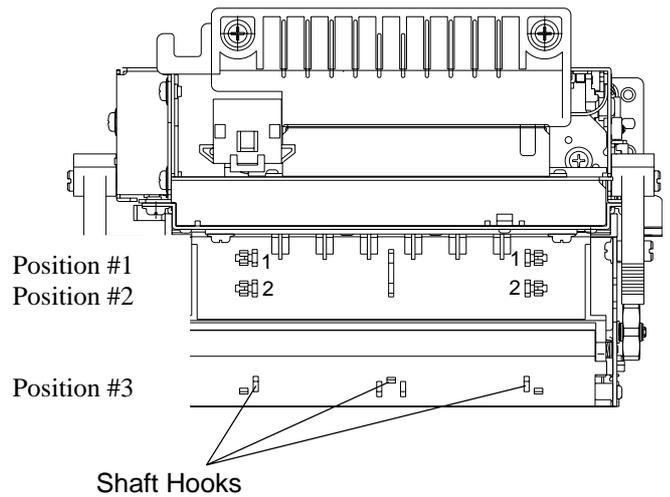

Figure 2
- 1) The Shaft Weight is not used, therefore attach it to the storage position #3 as per fig. 2.
Fit the Shaft Weight into the Shaft Hooks at Position #1 (Fig. 2).